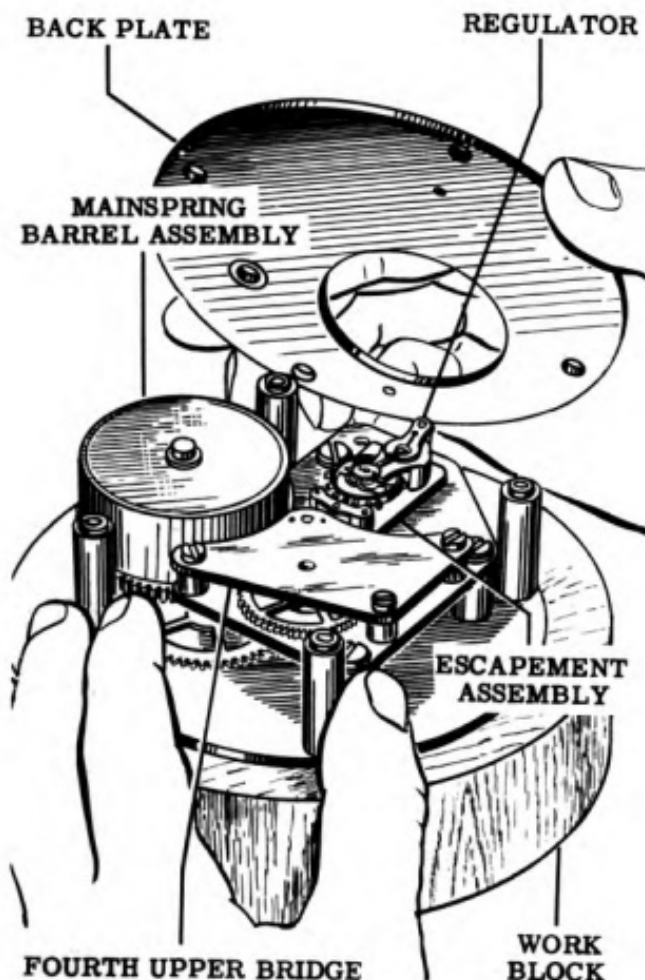

Figure 66
20. Place the back plate in position (see Fig. 66) and fasten it down with the four back plate mounting screws. Use the special collar (Tool No. 13A) on the end of an automatic screwdriver to avoid scratching the plate and to speed up the work.